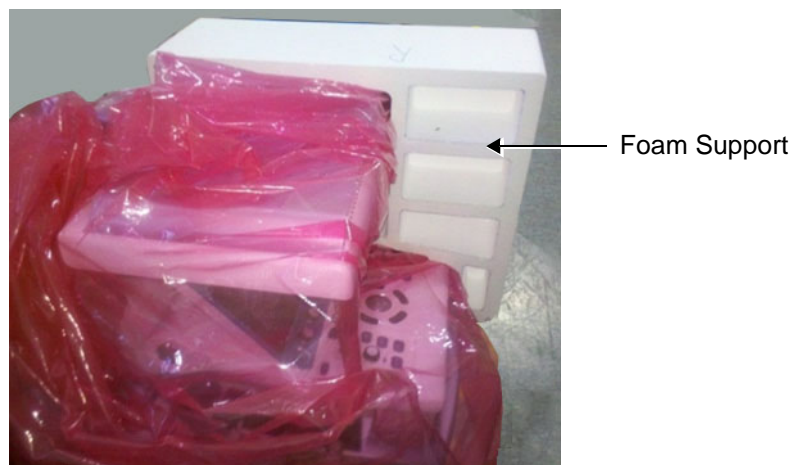

Figure 3-8 Foam Supports Protecting the LCD Screen
7.) Carefully remove the foam supports (from the side and top of the monitor) - see Figure 3-8.